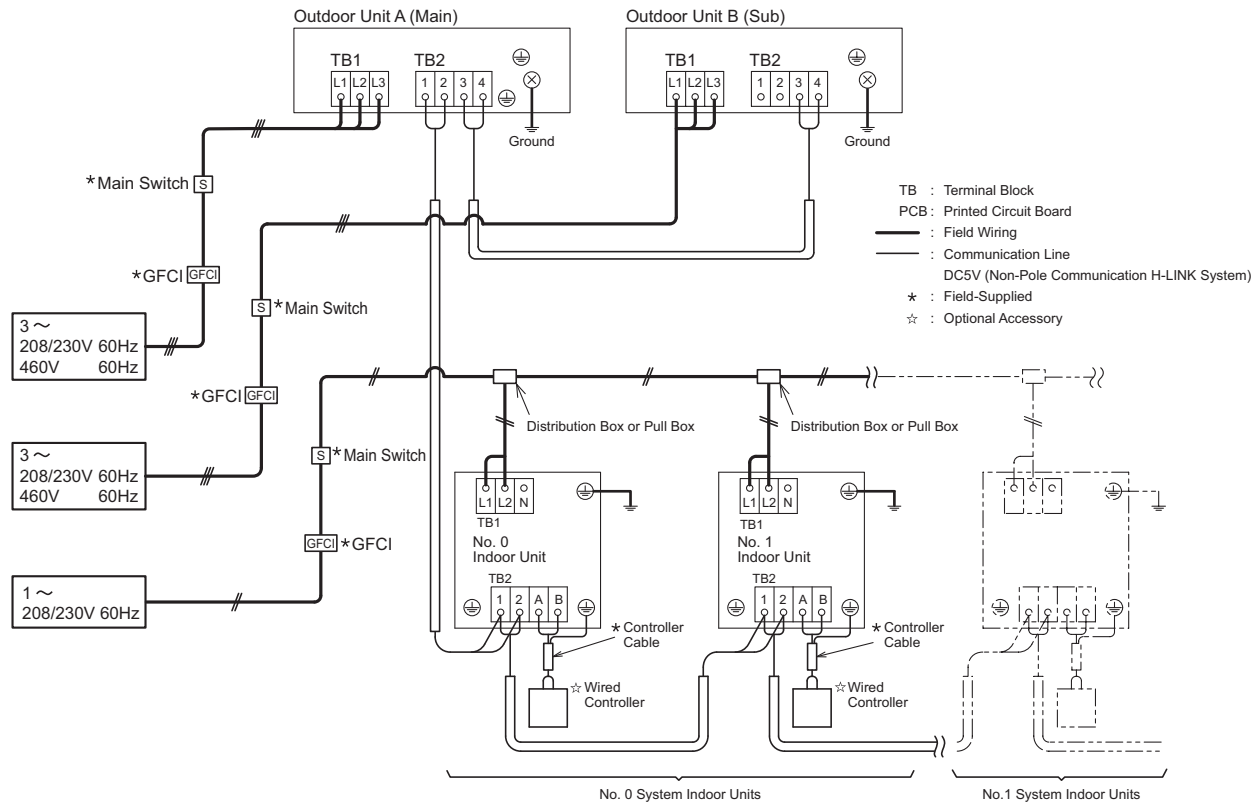

Figure 7.1 Illustration of Electrical Wiring Connections
- (3) Connect the communication cable between indoor units, and outdoor units, as shown in Figure 7.1.
- (4) Connect the communication cables in the same refrigerant system unit. (If the refrigerant piping of indoor unit is connected to the outdoor unit, also connect the communication cables to the same indoor unit.) Connecting the refrigerant piping and communication cables to the different refrigerant systems may lead to malfunction.
- (5) Use communication cabling that is a minimum of AWG18 (0.82mm²), 2-Conductor, Stranded Copper. Shielded cable must be considered for applications and routing in areas of high EMI and other sources of potentially excessive electrical noise to reduce the potential for communication errors. When shielded cabling is applied, proper bonding and termination of the cable shield is required as per Johnson Controls guidelines. Plenum and riser ratings for communication cables must be considered per application and local code requirements. (Do not use Tri-Core or anything beyond.)
- (6) Use the same kind of cables in the same H-LINK system.
- (7) Maintain at least 5 inch (127mm) between the communication cables and the power supply wiring, and also min. 5 ft (1.5m) between the communication cables and power supply wiring for other electrical device. If these cables are not secured, sleeve the power supply wiring into the metallic conduit tubing to separate them from the other cables. Make sure power supply wiring are well-grounded.
- (8) Connect the following communication cables to the terminals 1 and 2 on terminal block (TB2) in the outdoor unit A (main unit).
- (9) Do not connect the power supply wiring to the terminal block for transmission wiring (TB2). All the printed circuit boards in the same refrigerant system will be damaged.
- (10) Connect the ground wiring to the outdoor/indoor units. The ground wiring work under the condition of 100Ω (max.) ground resistance must be performed by a authorized personnel.